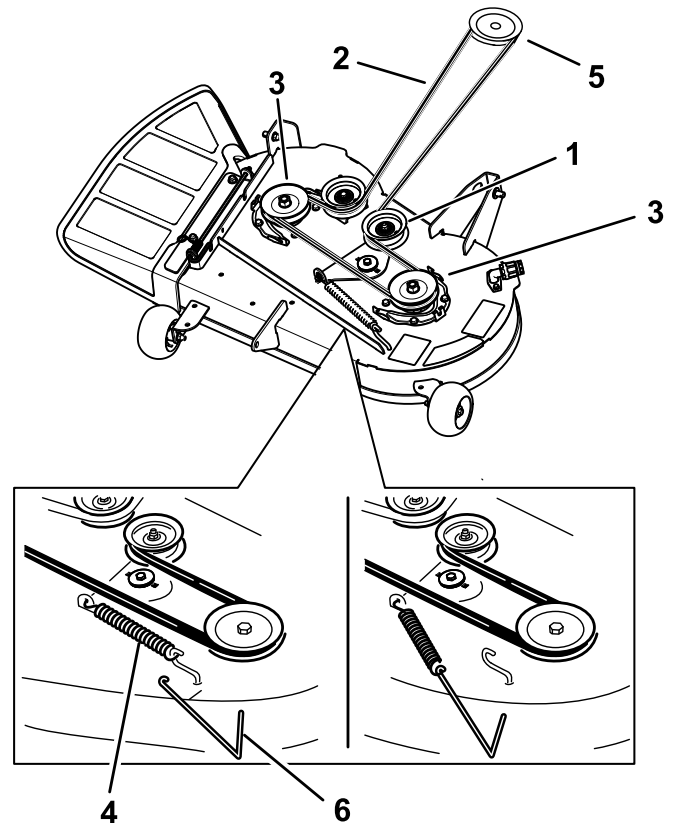

Figure 49
6. Route the new belt around the engine pulley and mower pulleys (Figure 49).
7. Using a spring-removal tool (Toro Part No. 92-5771), install the idler spring over the deck hook and place tension on the idler pulley and the mower belt (Figure 49).
5. Using a spring-removal tool (Toro Part No. 92-5771), remove the idler spring from the deck hook to remove tension on the idler pulley, and roll the belt off the pulleys (Figure 49).